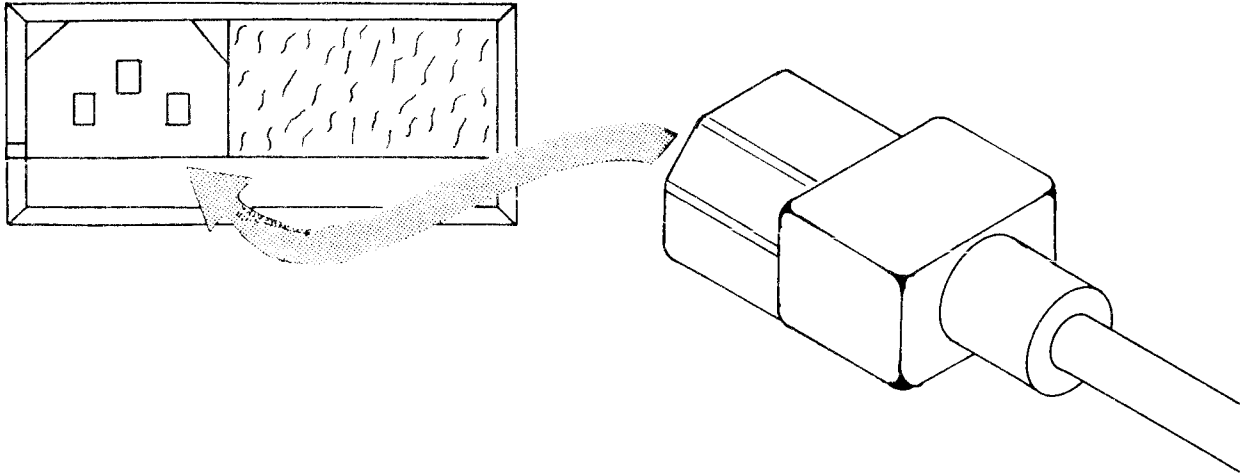

Figure 46. Plug Power Cord Into 610B Receptacle
c. Plug the female connector on the AC power cord into the AC power receptacle on the rear panel of the 610B (see Figure 46).